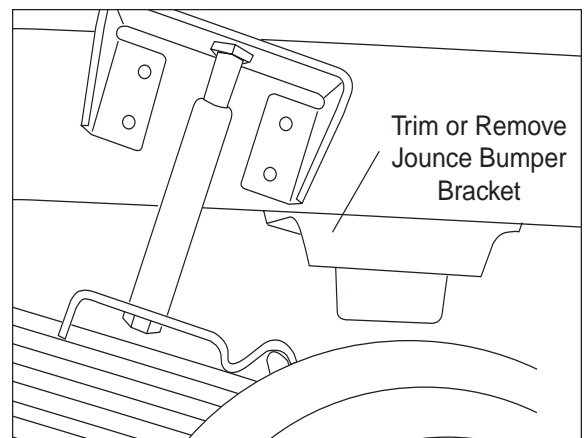

Figure 6
2. **'93 - Older Dodge 4WD pickups and '87 - Older Chevy/GMC 4WD Pickups:** It may be necessary to remove or trim the rubber jounce bumper bracket in order to provide sufficient clearance for the fully inflated air spring (Figure 6).